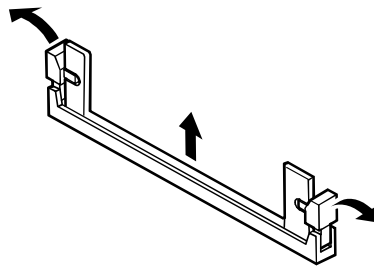

Figure 4-19. Removing a DIMM Cover
5. Spread the latch levers located on both ends of the DIMM socket just enough to unlock the DIMM cover and remove it (see Figure 4-19).